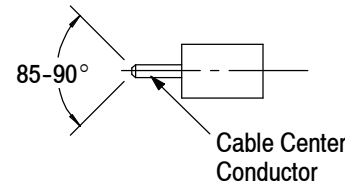

Figure 3
- Shape the blunt end of the center conductor to a cone between 85 and 90°. See Figure 3.